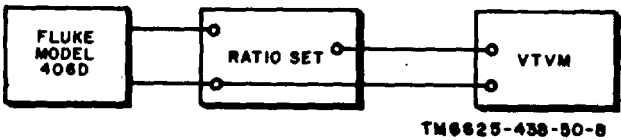

Figure 5-9. Decade resistor fault isolation, test setup.
- (6) Adjust the 1V-.01V ZERO control to zero the indicator on VOLTS meter M1.
- (7) Turn the VOLTS RANGE switch to CAL.
- (8) Depress the CAL PUSH switch, and vary the ADJ CAL control to zero the indicator on volts meter M1.
- (9) Set up the ratio set to deliver a 50-volt output when 50 volts are applied to the input of the ratio set.
- (10) Set the front panel controls as follows:
- (11) Connect the equipment as shown in figure 5-9.
- (12) Adjust the power supply until the vtvm indicates +50 volts.
- (13) Turn the NULL switch to 10, 1, .1, and .01. Refine the adjustment of the power supply for a zero indication on VOLTS meter M1 in each successive position of the NULL switch.